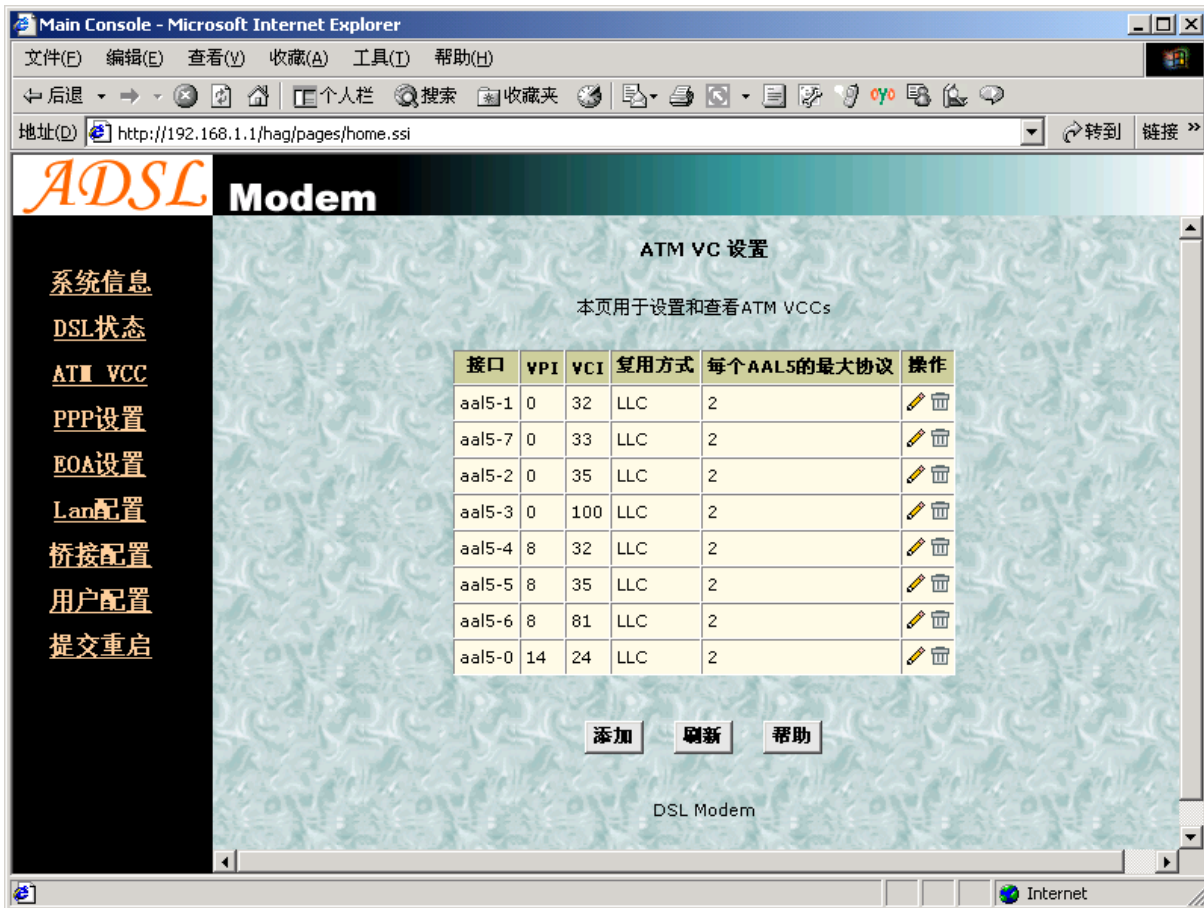

Figure 3.3
- Type number “0” in **VPI** item and “33” in the **VCI** item, then click “Submit” button. The result window is shown as Figure 3.3.